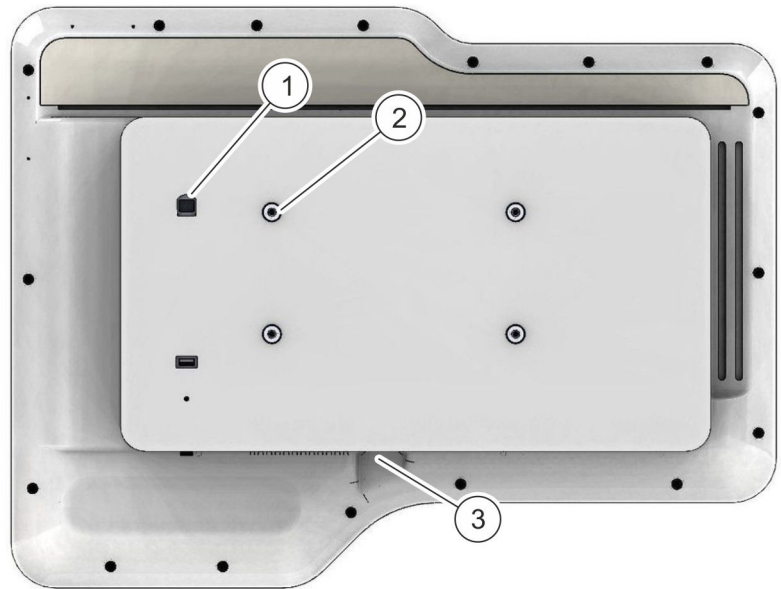

Fig. 3: Fastening the VESA adapter to the terminal
1. ➔ Screw the terminal to the VESA adapter using the four screws (M5x20) and the four fastening screw threads (Fig. 3/2) on the back of the terminal. Use one washer for each screw.
Plug the Ethernet cable (network cable) into the Ethernet connection (Fig. 3/1) on the back of the terminal.
6. ▶ Plug the power supply cable into the power connection on the underside of the terminal (Fig. 3/3).